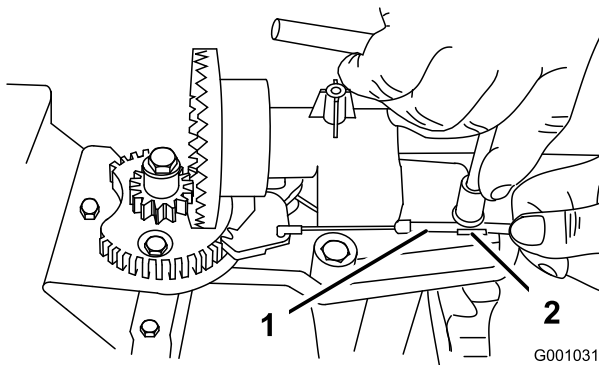
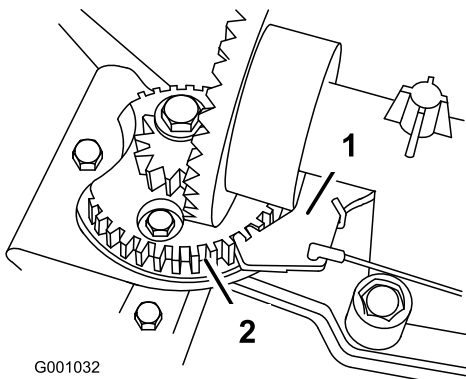

Figure 51
Figure 52
2. Loosen the bolt on the cable clamp (Figure 51).
3. Grasp the cable conduit and move it toward the front of the machine until the discharge chute latch fully engages the gear teeth (Figure 51 and Figure 52).
Note: The latch is spring loaded and will naturally move into the teeth of the gear (Figure 52).